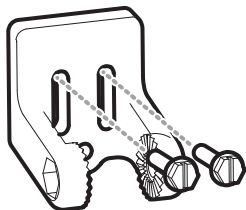

Figure 20
- Align the mounting bracket transducer assembly with the drilled holes in the transom. With a 5/16" socket driver, mount the assembly to the transom using the two #10 - 1" long screws provided (Figure 20). **Hand tighten only!**